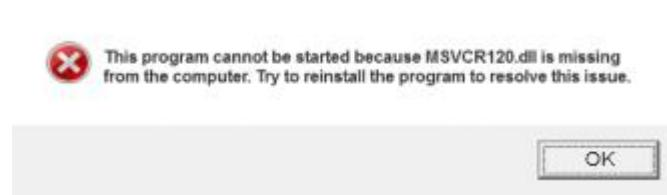

Figure 2-7
1. Error 1 may appear when you double-click the shortcut to run the program, prompting “MSVCR120.DLL cannot be found”, as shown in Figure 2-7.